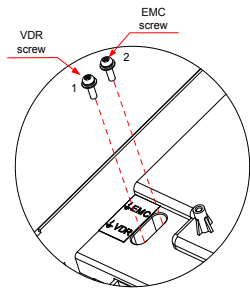

Figure 3-37 VDR screw and EMC screw
- The drive is applicable to system with neutral point grounded. If the drive is used in an IT power system with an ungrounded power system or a high resistance grounded [over 30 ohms] power system, it is necessary to remove both VDR and EMC screws 1 and 2 as shown in Figure 3-37. Do not install a filter. Failure to comply may result in personal injury or damage to the drive.
- If a residual-current device (RCD) is used and it trips at start, remove the EMC screw 2 as shown in Figure 3-37.